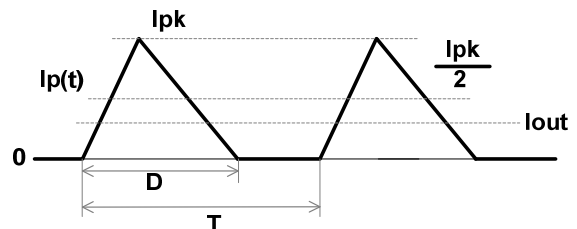

Figure 3—Inductor current waveform
The internal MOSFET turns off when $I_{P(t)}$ rises to I_{PK} (see Figure 3). The output current is calculated with Equation (5):